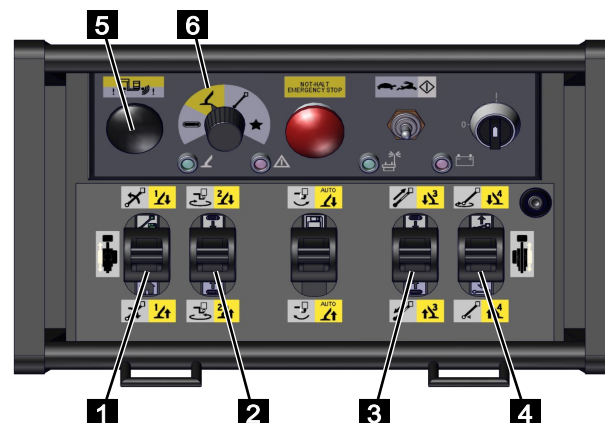

Fig. 135
4. Set the function selector to [bracing function] (yellow) (Fig.135/6).
5. Press and hold the collision button (Fig.135/5).
6. Use the control levers (Fig.135/1, 2, 3 and 4) to move the desired outrigger(s) as shown in the following table.